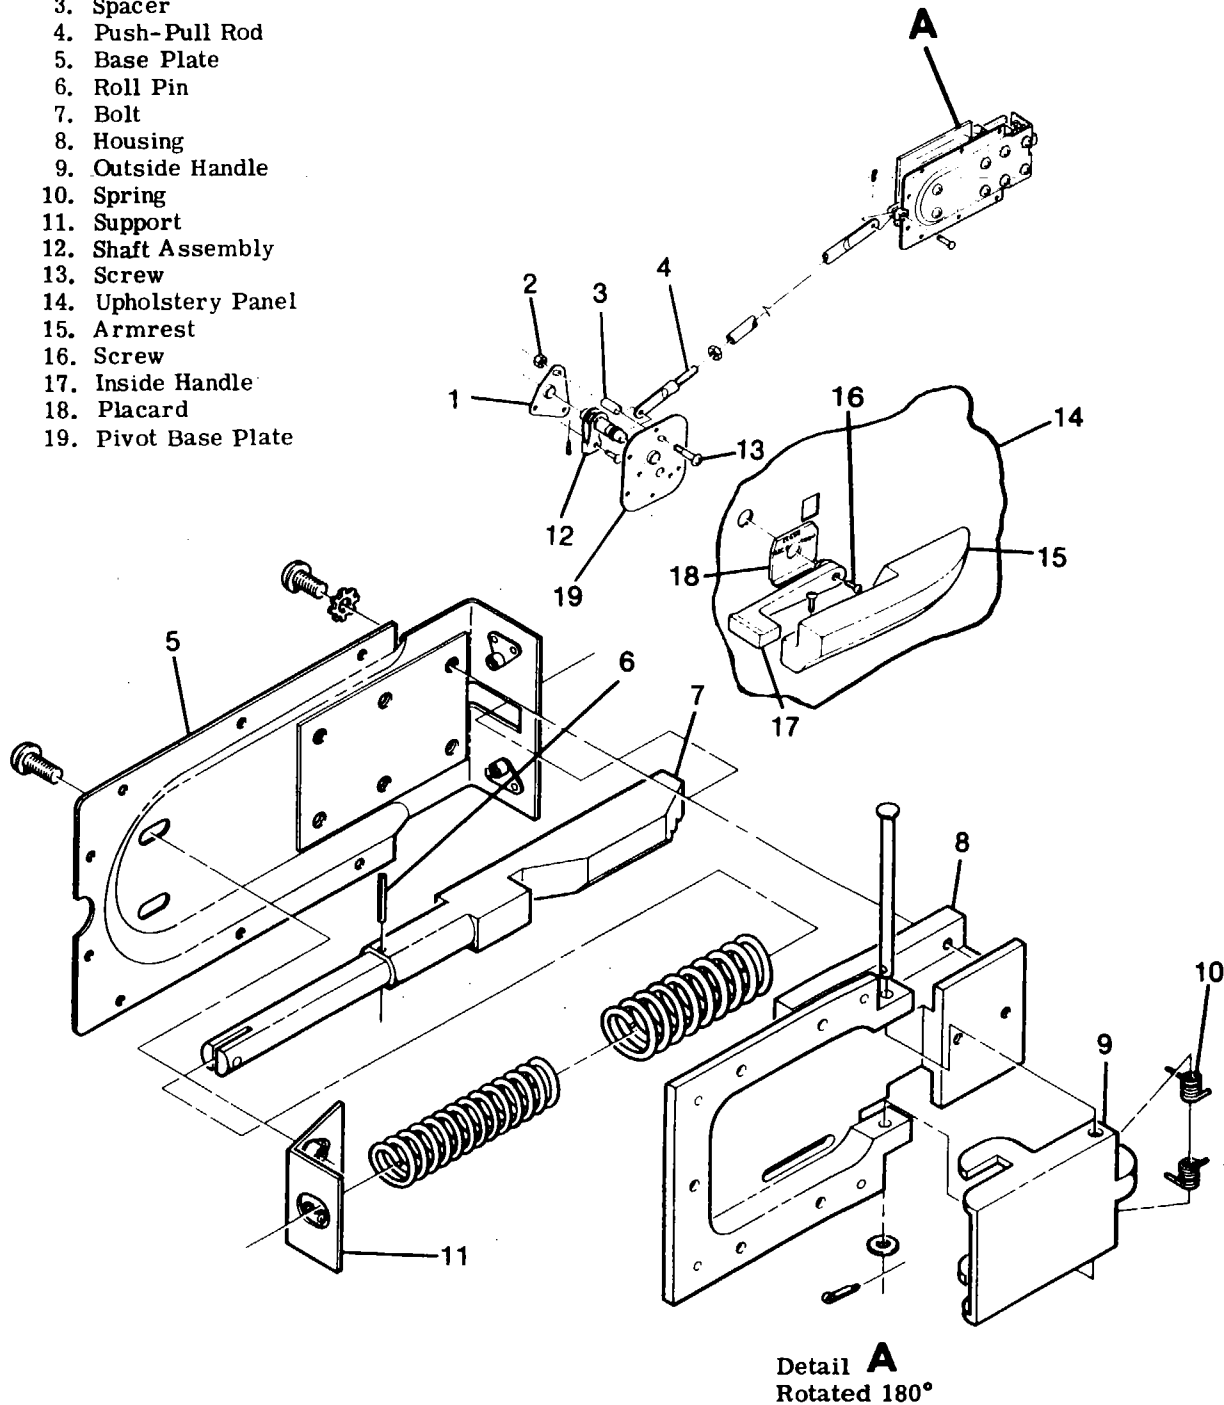

Figure 3-4. Door Latch Installation
3-25. DOOR LATCHES. (See figure 3-4.)
3-29. **INDEXING INSIDE HANDLE.** (See figure 3-4.) When inside handle is removed, reinstall in relation to position of bolt (7) which is spring-loaded to CLOSE position. The following procedure may be used.
- a. Temporarily install handle (17) on shaft assembly (12) approximately vertical.
- b. Move handle (17) back and forth until handle centers in spring-loaded position.
- c. Without rotating shaft assembly (12), remove handle (17) and install placard (18) with CLOSE index at top.
- d. Install handle (17) to align with CLOSE index on placard (18), using screw (16).
- e. Install arm rest (15) on upholstery panel (14).